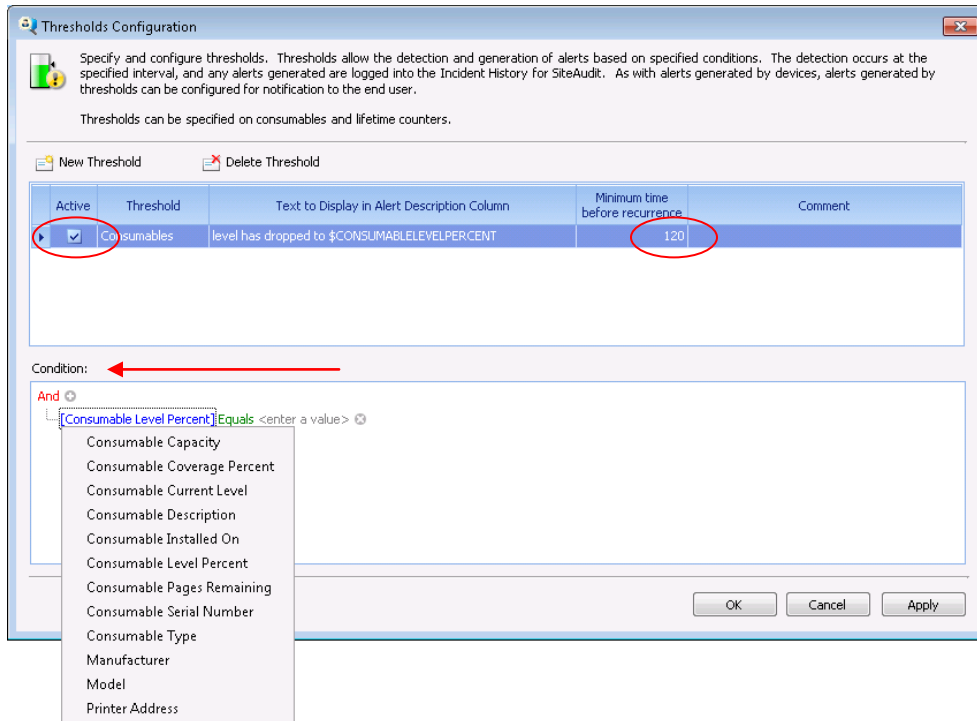

Figure 3 Example of a consumable threshold rule
- 1.1.1.1.1.1 Highlight the threshold and rule and use the And / Or plus other options to create the exact set of conditions needed for the threshold rule. See *Figure 3* to see the condition created to detect when a consumable item level is less than or equal to 2%.